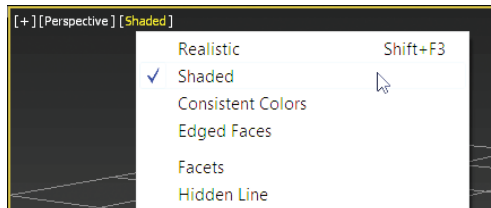

FIGURE 2.3 Shading viewport label menu
13. Go to the Viewport Label menus at the top left of the Front viewport. Click on the Shading viewport label menu and choose Shaded, as shown in Figure 2.3.